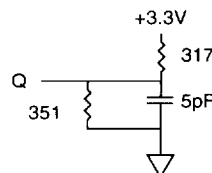

Fig. 2 OUTPUT LOAD EQUIVALENT
- Output loading is specified with C_L = 5pF as in Fig. 2. Transition is measured ±500mV from steady state voltage.
- The load used for V_{OH}, V_{OL} testing is shown in Fig. 2. AC load current is higher than the shown DC values. AC I/O curves are available upon request.